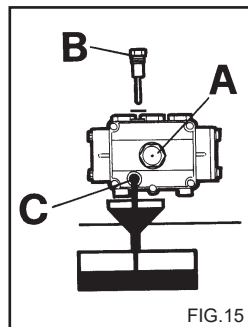

FIG.15
- 2) Unscrew the cap with the dipstick (fig. 15).